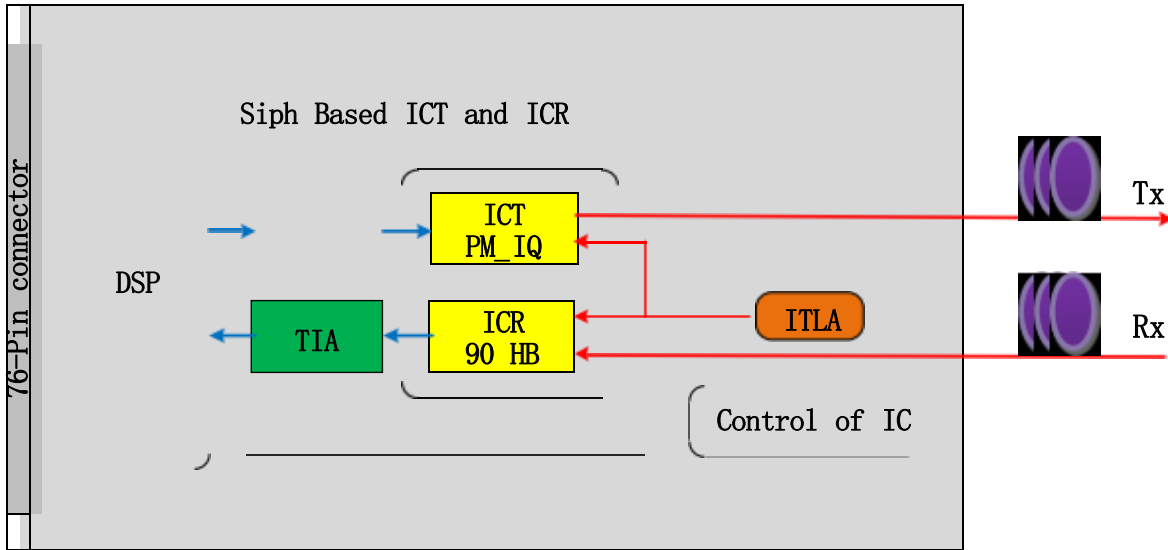

Figure 1: Functional Diagram of Module
The application field of the module is widely used from short haul (ZR) to Metro(MR) interconnects. As shown in figure1, it is comprised of high-data lanes, a single 3.3V power supply, an IIC interface for module control and status report, and dedicated alarm and control pins (not shown on the figure1).